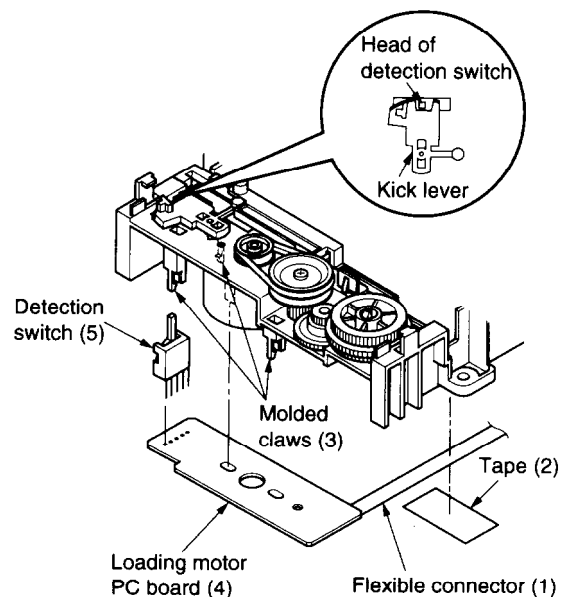
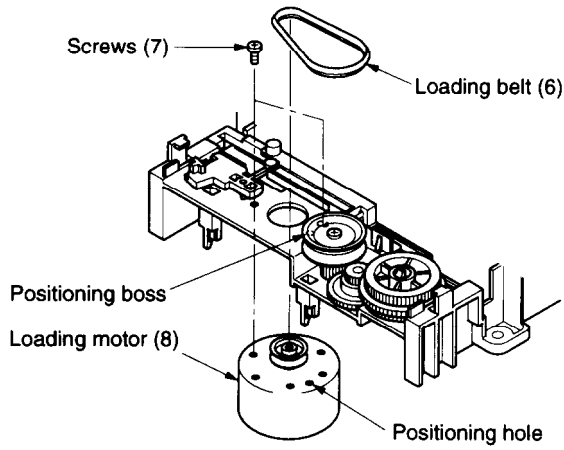

Fig. 1-3-2
Fig. 1-3-3
1. Peel off the tape (2) fixing the flexible connector (1).
3. Loosen three molded claws (3), and remove the loading motor PC board (4) (Refer to Fig. 1-3-2).
4. Desolder, and remove the detection switch (5).
5. Remove the loading belt (6) (Refer to item Fig. 1-3-3).
6. Remove two screws (7), and remove the loading motor (8).
1. Align the positioning hole of a new loading motor (8) to the hole into which the chassis positioning boss is inserted, and fix the motor with two screws (7). (Refer to Fig. 1-3-3.)
- When mounting the loading motor PC board (4), insert the end of the detection switch (5) into the notch of the kick lever. (Refer to Fig. 1-3-2.)
- When mounting the loading belt (6), take care not to twist the belt or touch grease.
- Be sure to open the molded claws (3) manually when mounting the loading motor PC board (4).
- When the loading motor PC board (4) is pushed in directly without opening the molded claws (3), the molded claws (3) may be destroyed.